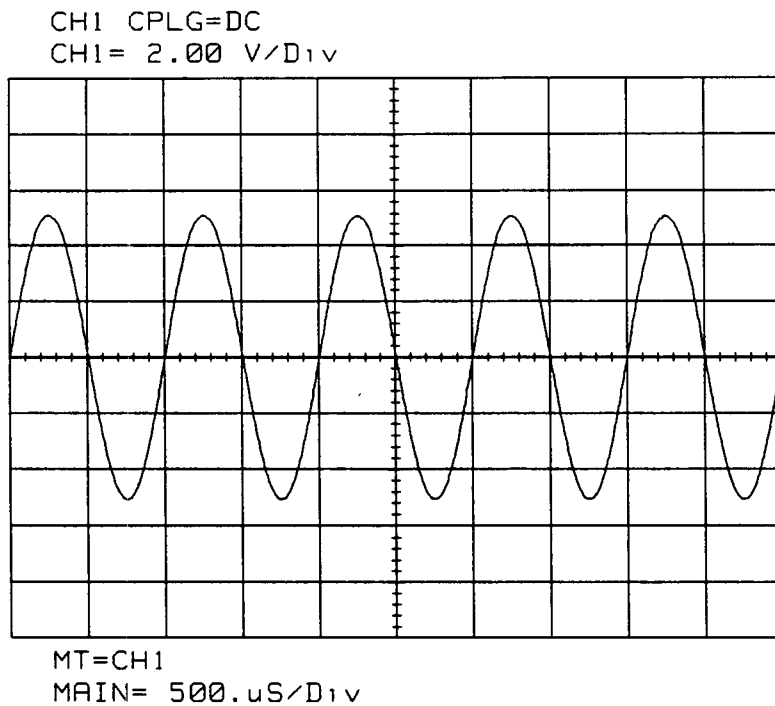

Figure 7-9. Sine Wave
3. Refer to figure 7-9 to verify the correct result.